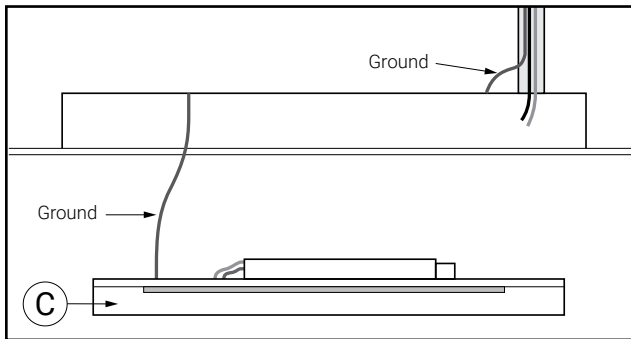

Figure 11.
11. **Situation 1** Grounding: Screw grounding cable from LED Panel (C) to original troffer if existing fixture ground connection is made through existing fixture (Fig. 11).